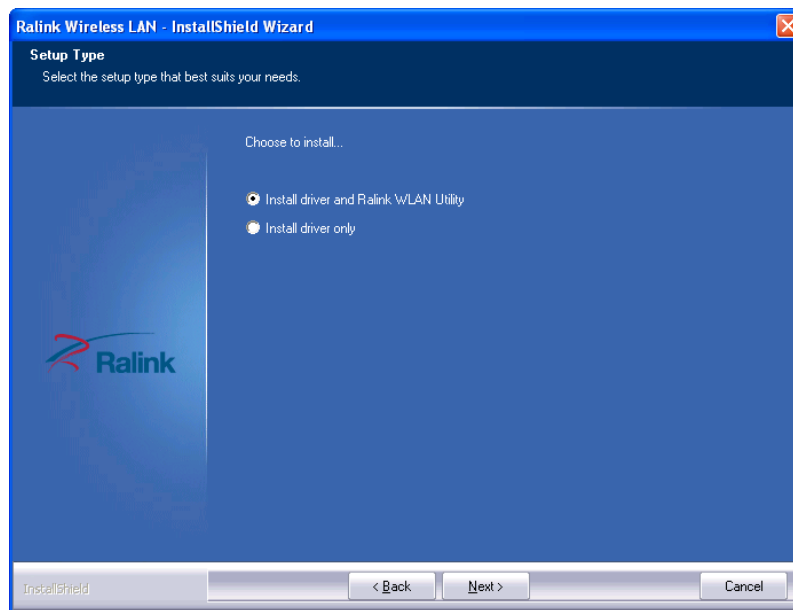

Figure 8-32: Setup Type
Step 5: The **Setup Type** screen in **Figure 8-32** appears.